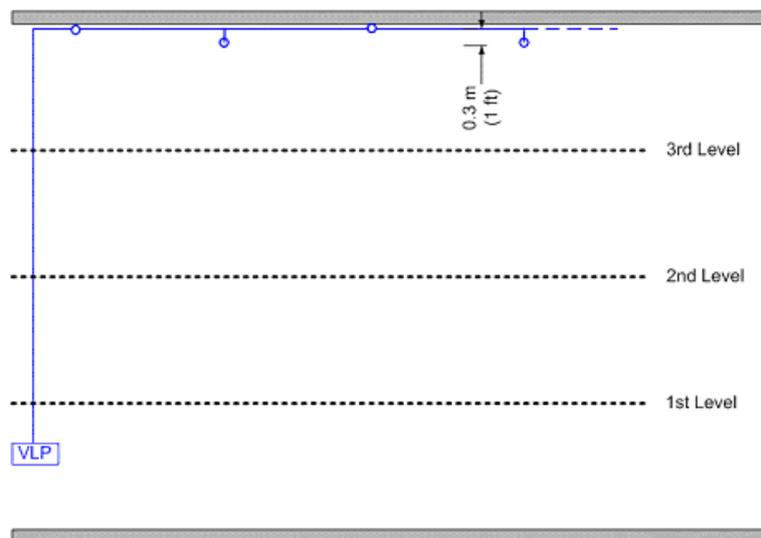

Figure 8: The VESDA detector and sampling pipe network locations in an example warehouse.
3. During pipe network installation, instead of connecting the long dropdown pipes that will be used for mezzanine protection, insert shorter pipe lengths (0.3 m (1 ft)) in the T-junctions at the identified locations. Note that sampling holes on any particular length of pipe are identical in size. The VESDA detector should be mounted close to ground level as shown (Figure 8).